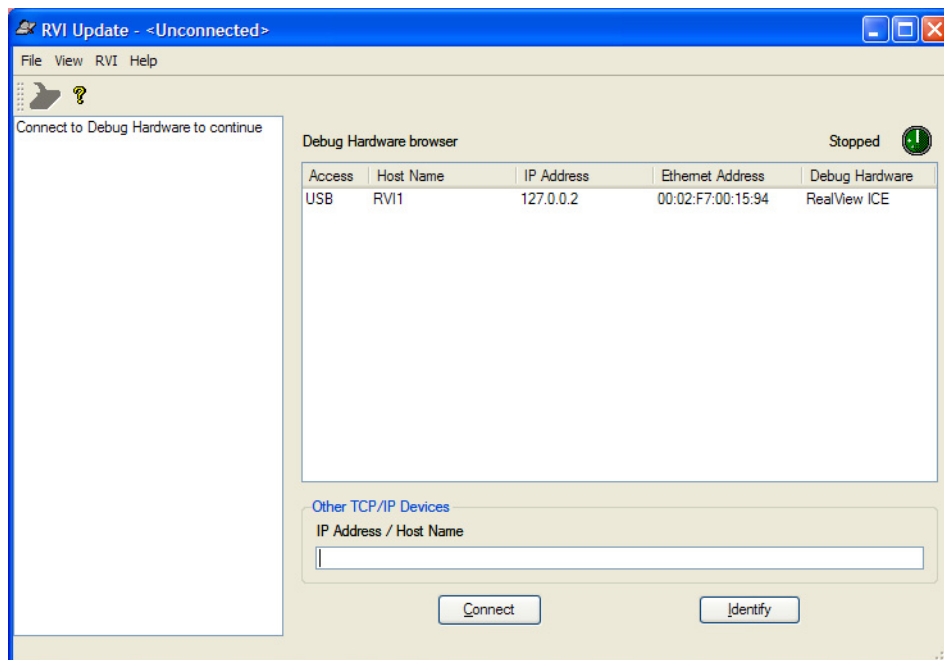

Figure 7-1. Connecting to ICE
5. Select your ICE from the list and press Connect (see Figure 7-1).